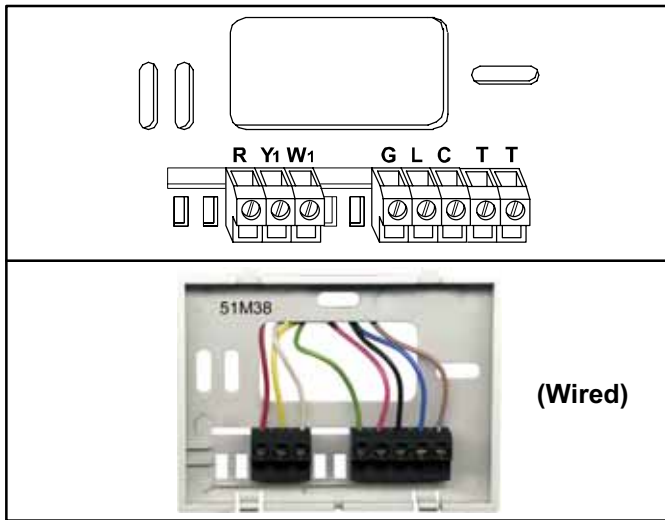

Figure 1. L3711C Terminal Strip
- L3711C - See table 1 and figure 1.